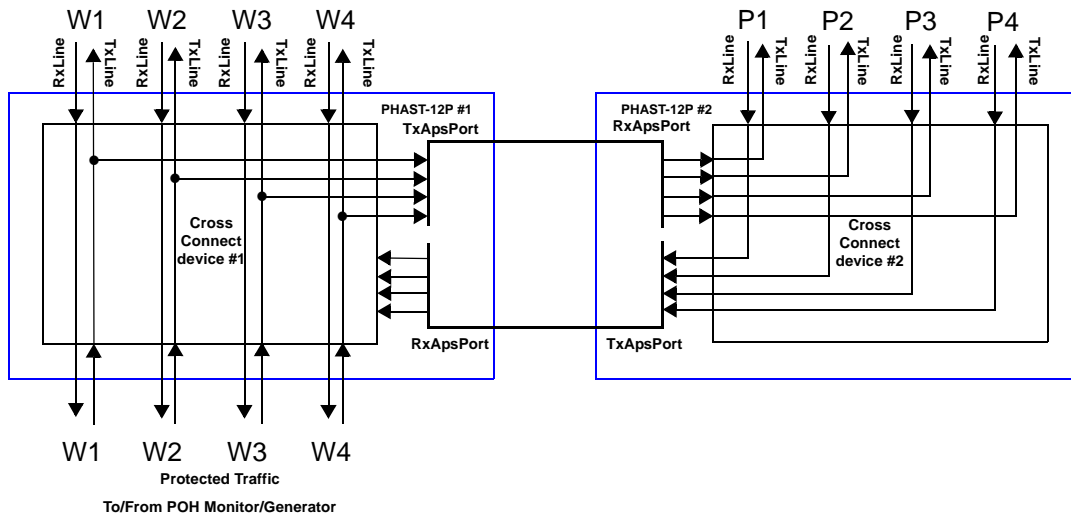

Figure 15. STM-1/OC-3, 1+1 APS Idle State
Figure 15 shows an example of a 1+1 APS protection architecture in STM-1/OC-3 mode using two PHAST-12P devices. One PHAST-12P device handles up to four Worker lines (W) while a second PHAST-12P handles the associated Protection lines (P). Both devices are interconnected through the APS Port interface, using one fourth of the bandwidth per STM-1/OC-3 protection group. The cross connects of both devices setup permanent bridges from the Worker Transmit lines to their Protection Transmit lines over one of the APS Port interfaces. The received protection payload of the four lines is available on the other APS Port interface.